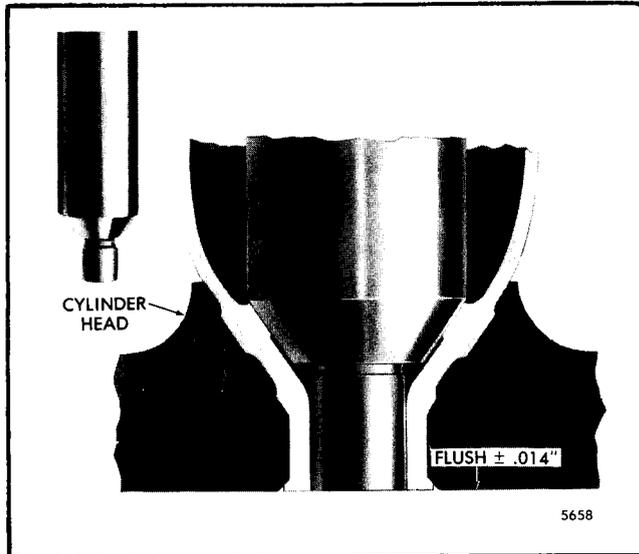

Fig. 7 - Measuring Relationship of Gage to Cylinder Head Fire Deck using Tool J 25521
Install gage J 25521 in the injector tube. Zero the sled gage dial indicator J 22273 to the fire deck. Gage J 25521 should be flush to  $\pm .014$ " with the fire deck of the cylinder head (Fig. 7).
- d. Remove the chips from the injector tube and, using gage J 25521, continue the reaming operation until the shoulder of the spray tip is flush to  $\pm .014$ " with the fire deck of the cylinder head as shown in Fig. 7. Then wash the interior of the injector tube with clean solvent and dry it with compressed air.